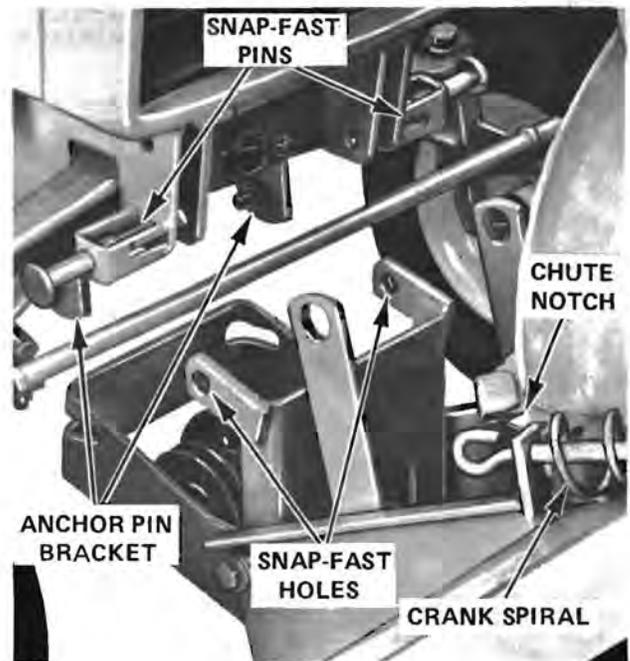

FIGURE 6
2. See Figure 6. Position the auger assembly so the tractor can be lined up with the mounting brackets.